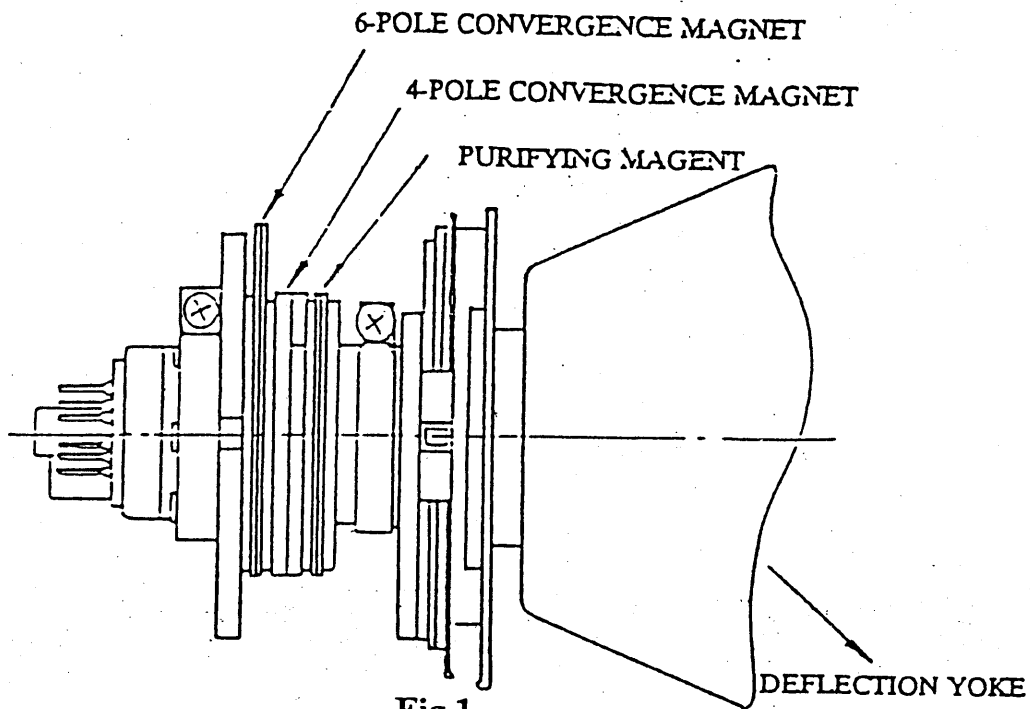

Fig.1
- b) Adjust the purity magnet so that the picture is in magenta color. By turning two overlapping pawls in opposite direction, move them until they are at the same angle, the 9 o'clock and 3 o'clock positions respectively (shown in Fig 1).
14. Static convergence adjustment : (shown in Fig 1, 2,3,4)